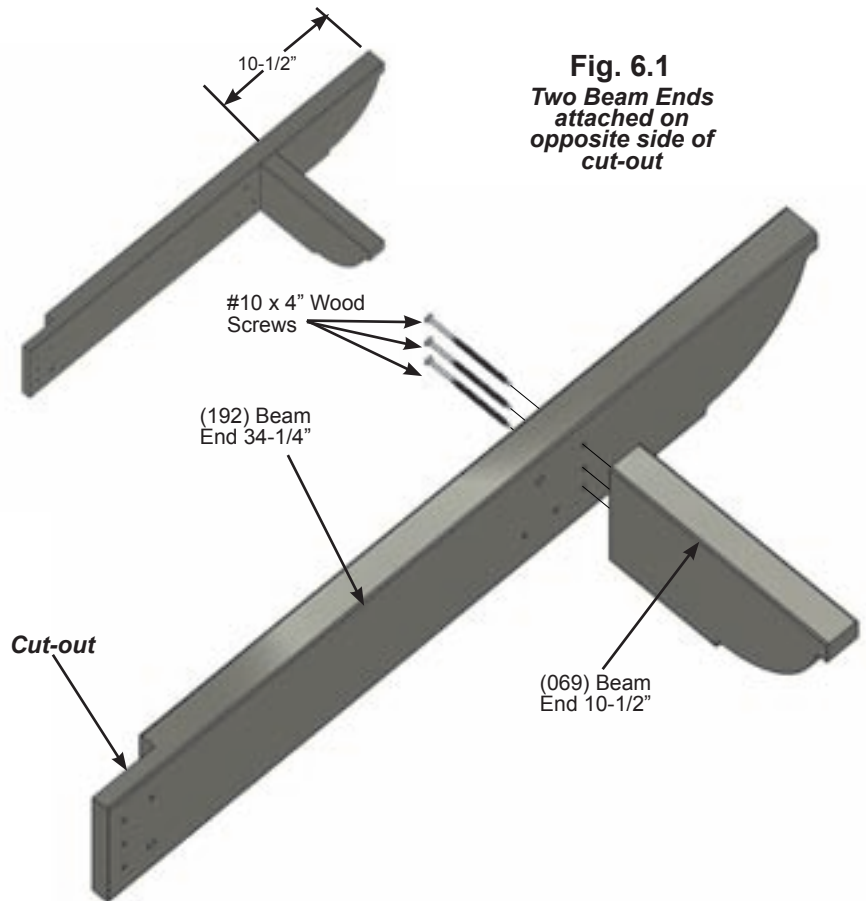

Fig. 6.1
A: On a flat and level surface attach one (069) Beam End 10-1/2" to (192) Beam End 34-1/4" with three #10 x 4" Wood Screws as shown in fig. 6.1.
B: Repeat Step A three more times so you have four assemblies. Note that two of the Beam Ends should be on the same side as the cut out and two should be on the opposite side. (fig. 6.1 and 6.2)